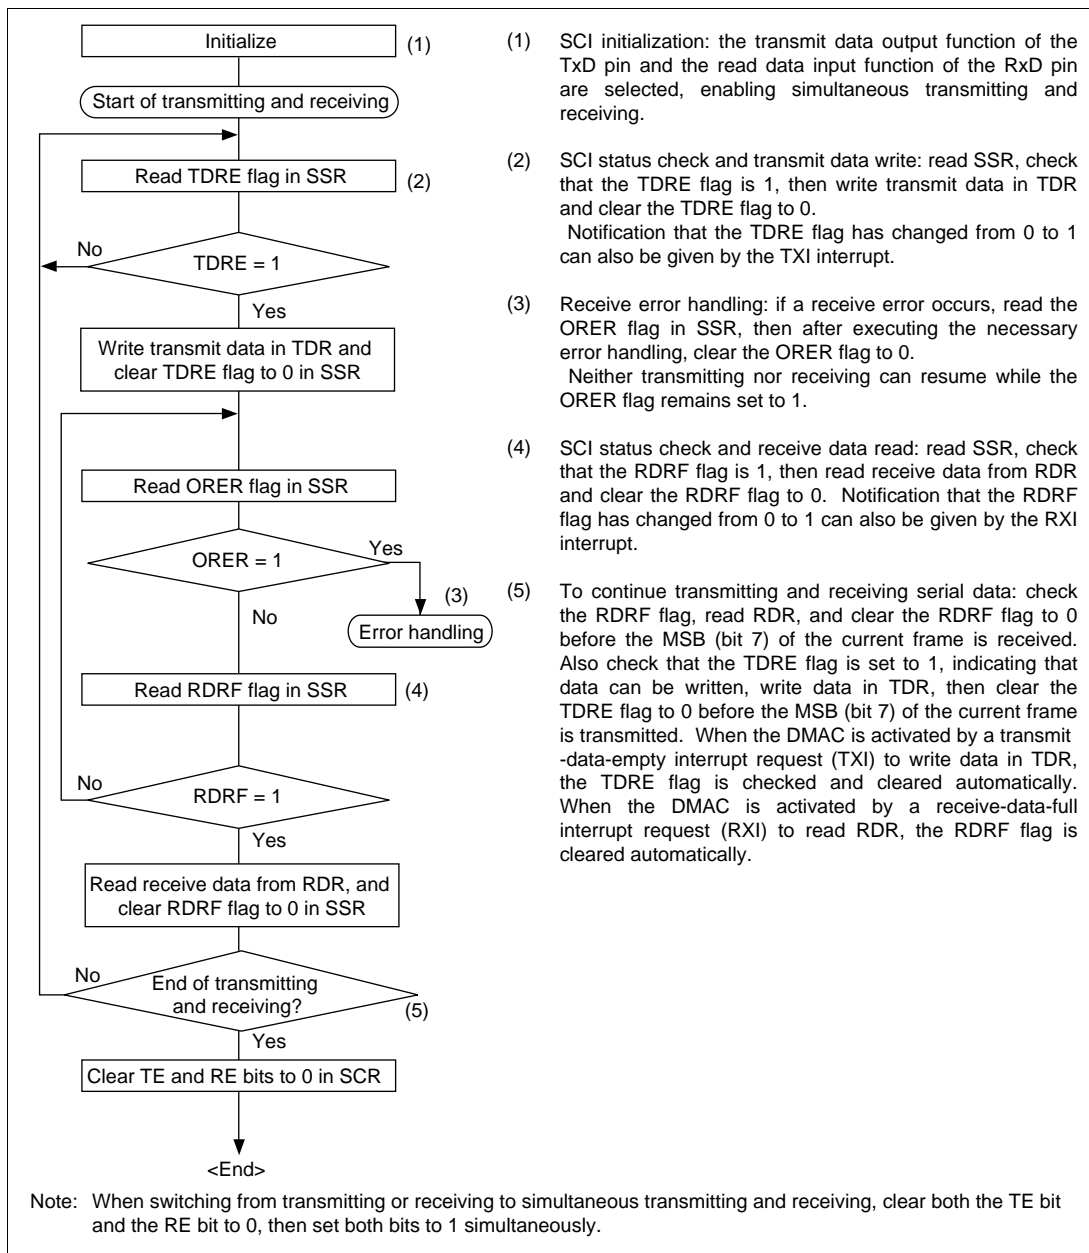

Figure 13.20 Sample Flowchart for Simultaneous Serial Transmitting and Receiving
- Transmitting and Receiving Data Simultaneously (Synchronous Mode): Figure 13.20 shows a sample flowchart for transmitting and receiving serial data simultaneously and indicates the procedure to follow.